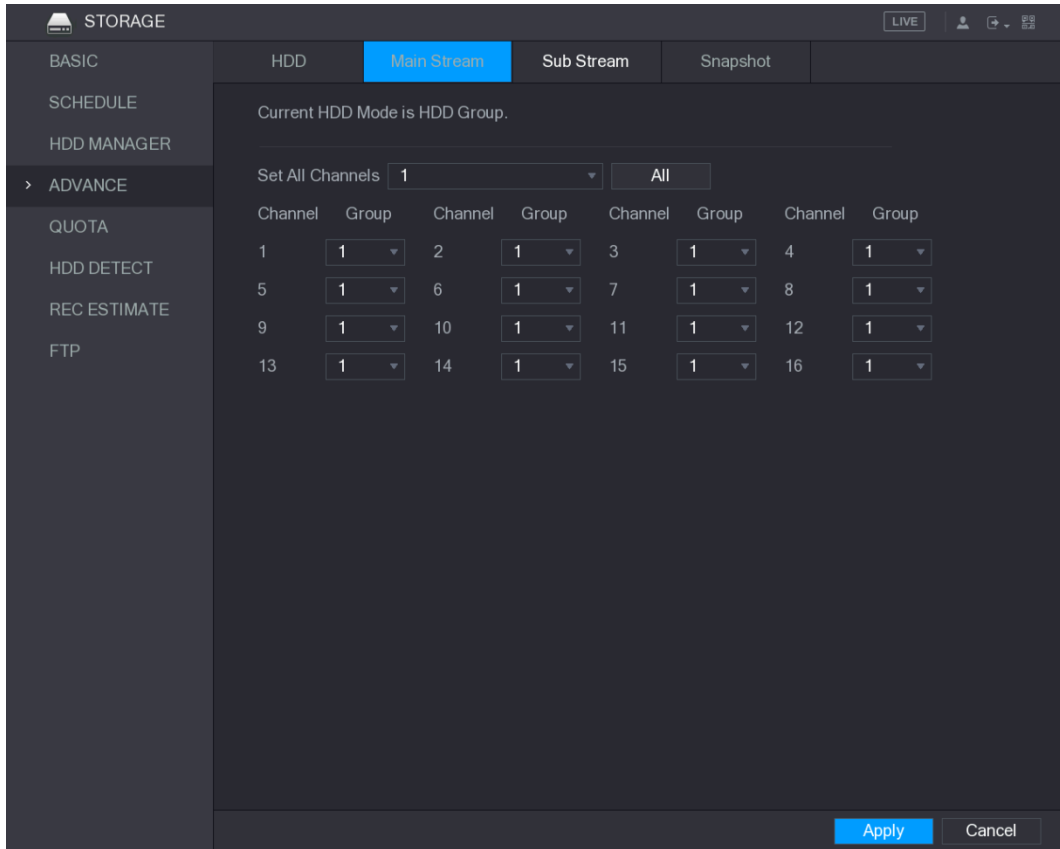
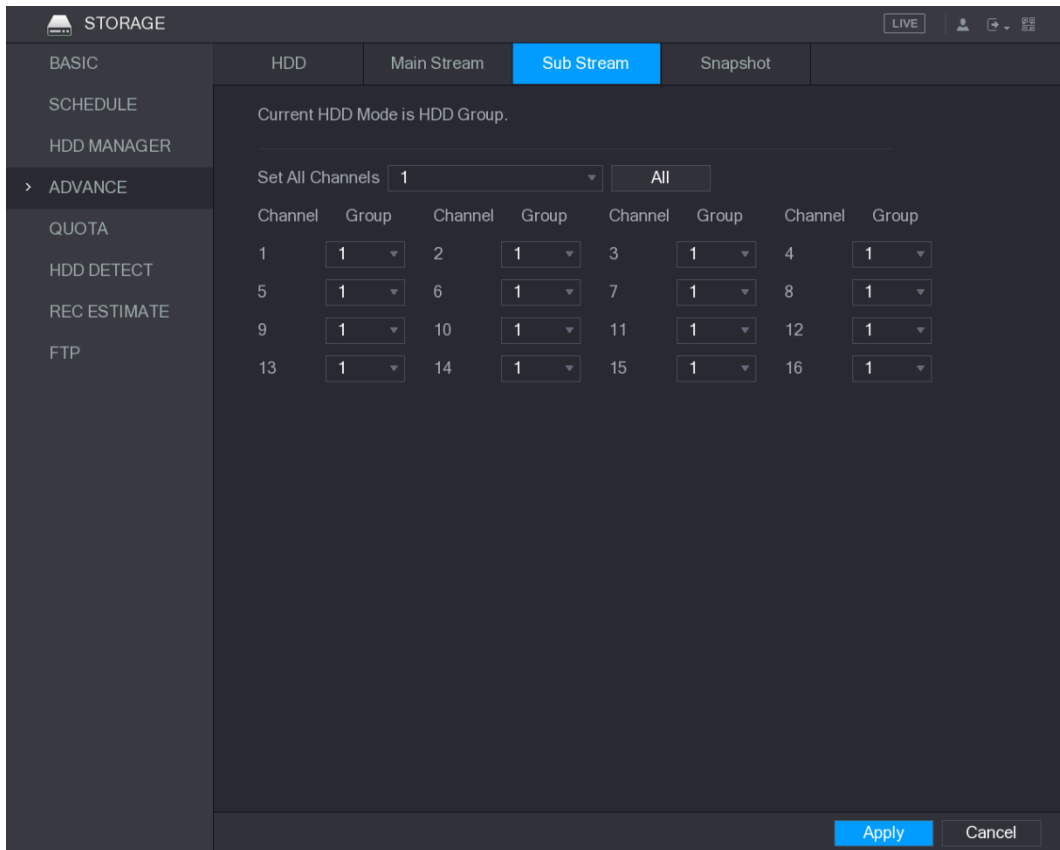
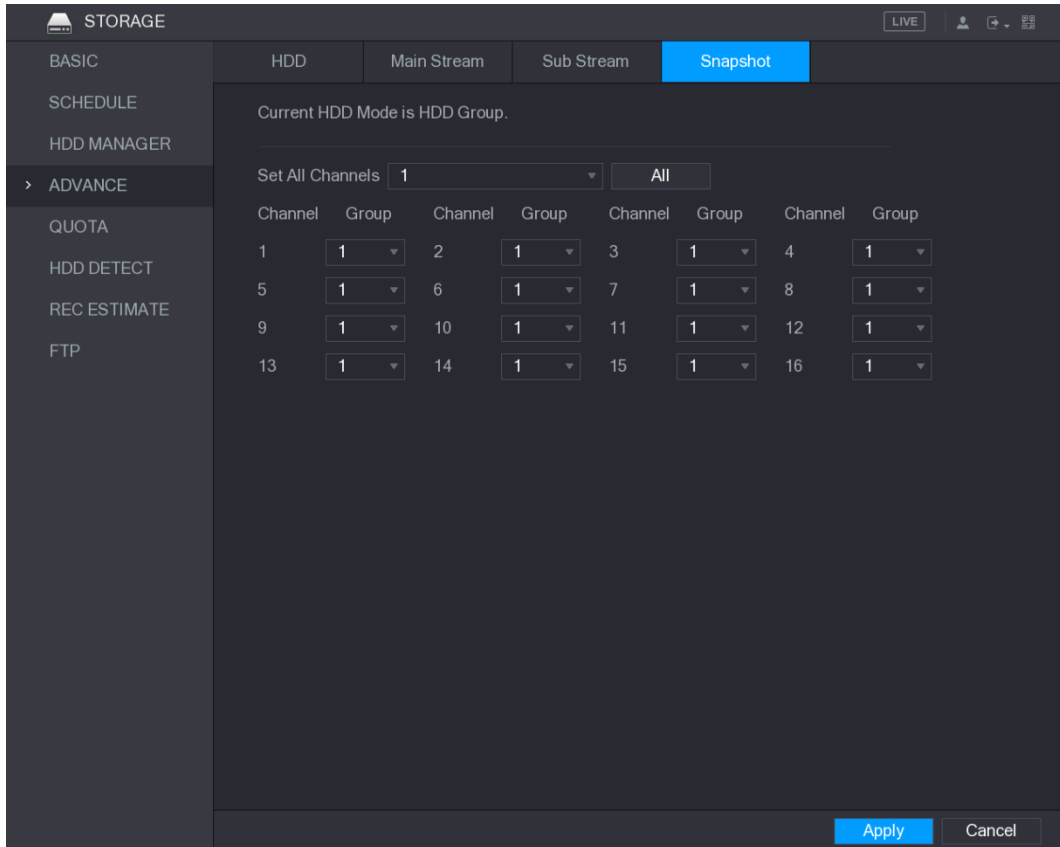

Figure 5-257
Figure 5-258
Figure 5-259
Step 3 After configuring HDD group, under the **Main Stream** tab, **Sub Stream** tab and **Snapshot** tab, configure settings to save the main stream, sub stream and snapshot to different HDD group as selected by you. See Figure 5-257, Figure 5-258, and Figure 5-259.